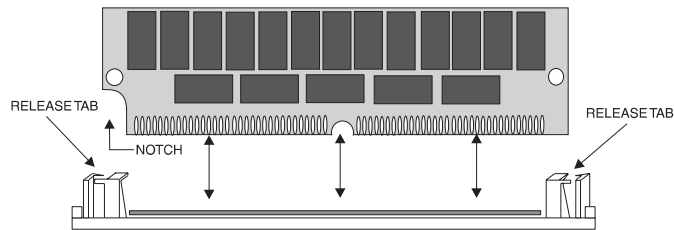

Figure 3-1: Installing a 72-Pin SIMM
1. Hold the SIMM so that the notched edge is aligned with the notch on the SIMM socket (Figure 3-1).